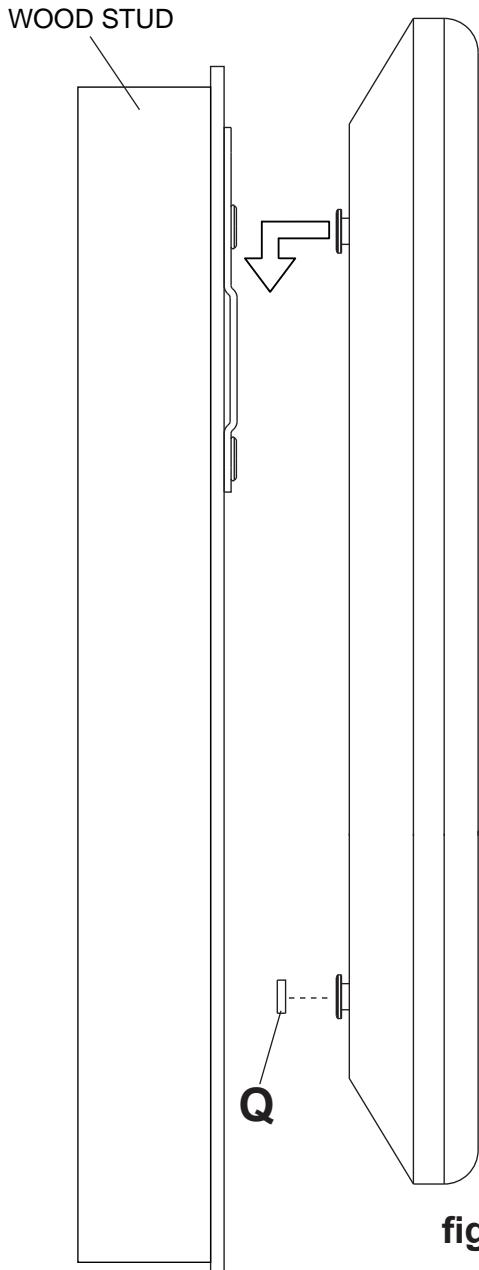

fig. 3.1
3 Apply cloth bumpers (Q) to bottom mounting screws as shown in figure 3.1.